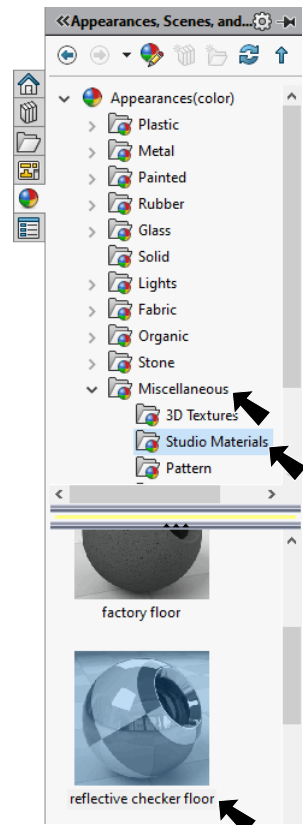

Fig. 24
Step 2. In the Appearances Task pane, expand **Miscellaneous**, click **Studio Materials** and in the lower pane select **reflective checker floor**, Fig. 24.